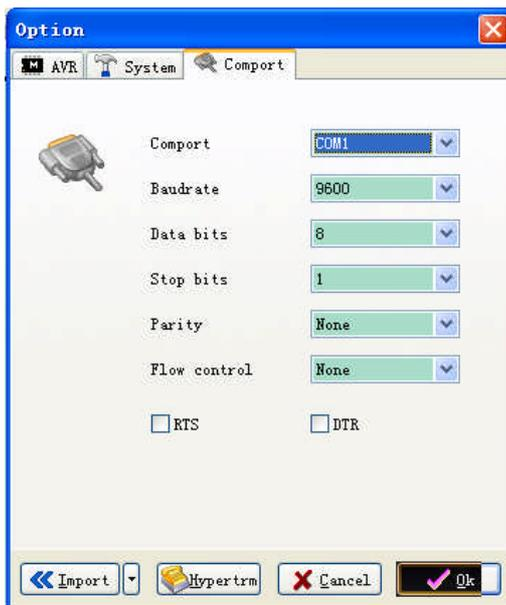

Fig. 6
- 6) Change settings on tab “Com Port” to those shown in Fig. 6. Com port number should be choose according to actual port used. Communication format is 9600 bps, 8N1 with no parity and flow control.